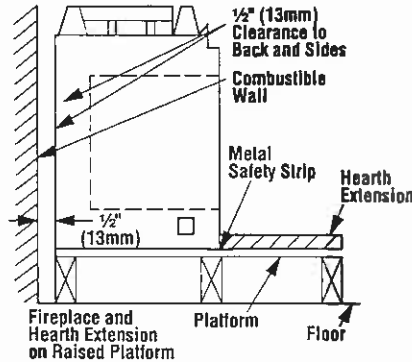

Figure 4
**Step 2.** Insert the metal safety strips, packaged with the fireplace, beneath the fireplace as illustrated (Figures 4 and 5). The safety strips should overlap for continual coverage of the floor.
**IMPORTANT: UNDER NO CIRCUMSTANCES CAN THE FIREPLACE TOP SPACERS (FIGURE 4) BE REMOVED OR MODIFIED, NOR MAY YOU NOTCH THE HEADER TO FIT AROUND OR BE INSTALLED LOWER THAN THE SPACERS. THE HEADER MAY BE IN DIRECT CONTACT WITH THE TOP SPACERS BUT MAY NOT BE SUPPORTED BY THEM.**